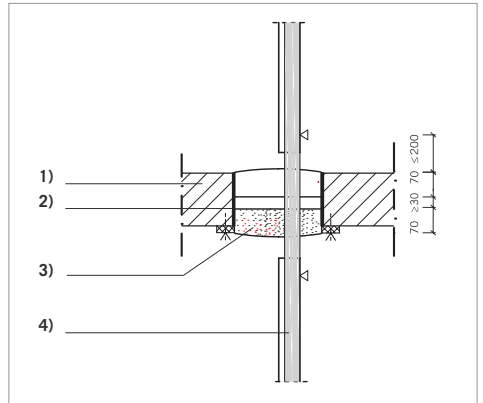

Fig. 2:
- / The through penetration firestop system may be installed in apertures consisting of a pipe of PE-HD (EN 1519-1, EN 12201-2, EN 12666-1), ABS (EN 1455-1) or SAN+PVC (EN 1565-1) embedded flush in concrete (permanent formwork s. Fig 2)